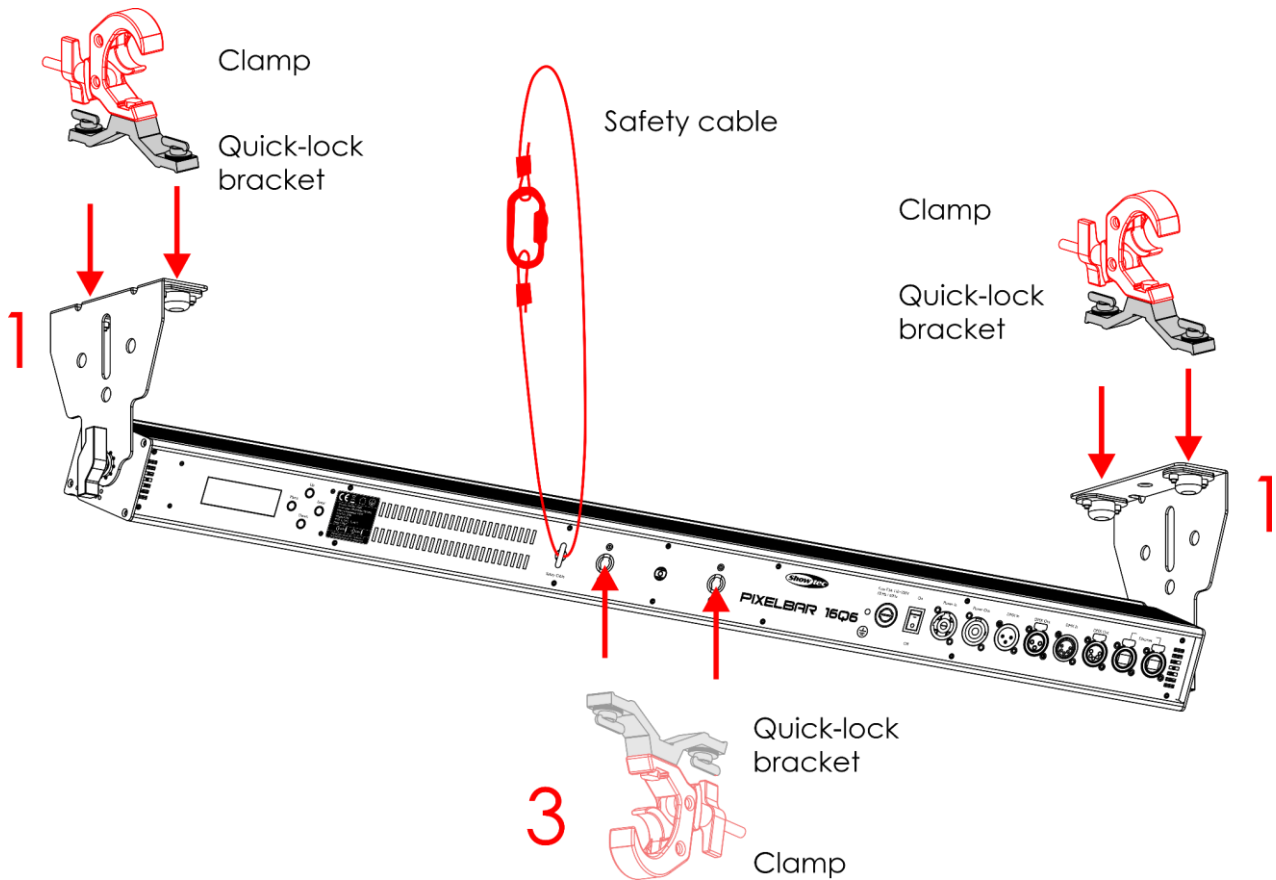

Fig. 07
- Option 3: without mounting brackets (see Fig. 07)
- 01) Install the 2 **mounting brackets (03)** for option 1, or 1 **mounting bracket (03)** for option 2.
- 02) Fasten the quick-lock brackets on the **mounting brackets (03)** as shown in Fig. 07.
- 03) Install the clamp(s), as shown in Fig. 07. Make sure that you use clamps suitable for attaching the device to a truss.
- 05) Secure the device with a secondary suspension, for example a safety cable. Make sure that the secondary suspension can hold 10 times the weight of the device. If possible, the secondary suspension should be attached to a supporting structure independent of the primary suspension. Put the safety cable through the **safety eye (05)**, as shown in Fig. 07.